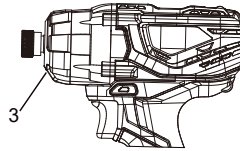

Fig. 7
The LED worklight (3) will automatically turn ON when the trigger switch is squeezed (Fig. 7). It will automatically turn OFF when the trigger switch is released.